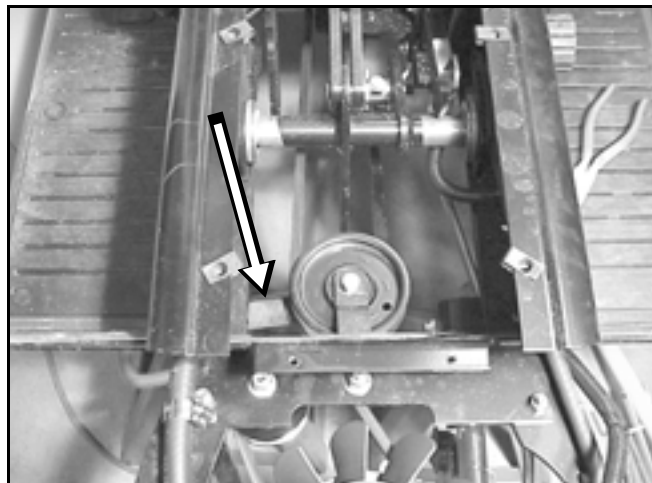

Figure 122
7. Unhook the idler spring from the bottom of the idler pulley (Figure 122).